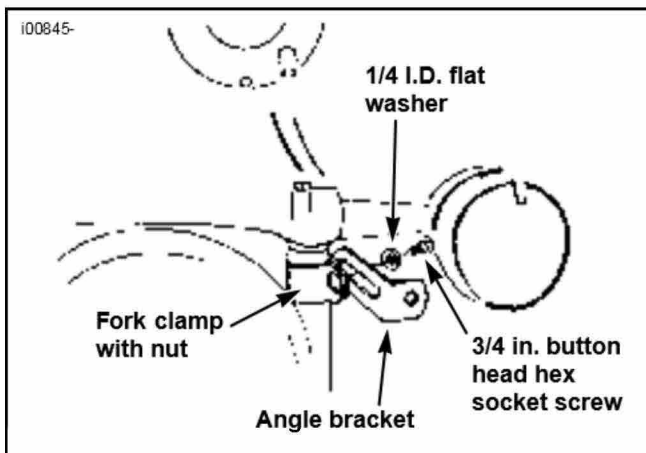

Figure 3. Assemble Lower Mount
3. See Figure 3. Spread the fork clamps and place around the top of the fork tubes so the flat side is to the outside and pointing forward, squeeze the clamps tight on the forks. Bolt the angle brackets to the fork clamps with the button hex screws and flat washers. The ends of the angle brackets will point out. Do not fully tighten the screws.